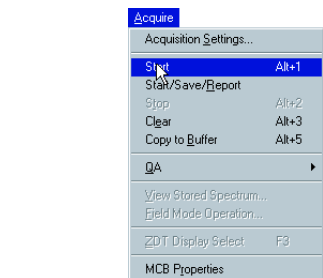

Fig. 2
1.3 Choose **Acquire, Start** to begin counting your standard source (Fig. 2). Count until there are well-defined peaks visible in the main window. Choose **Acquire, Stop**.